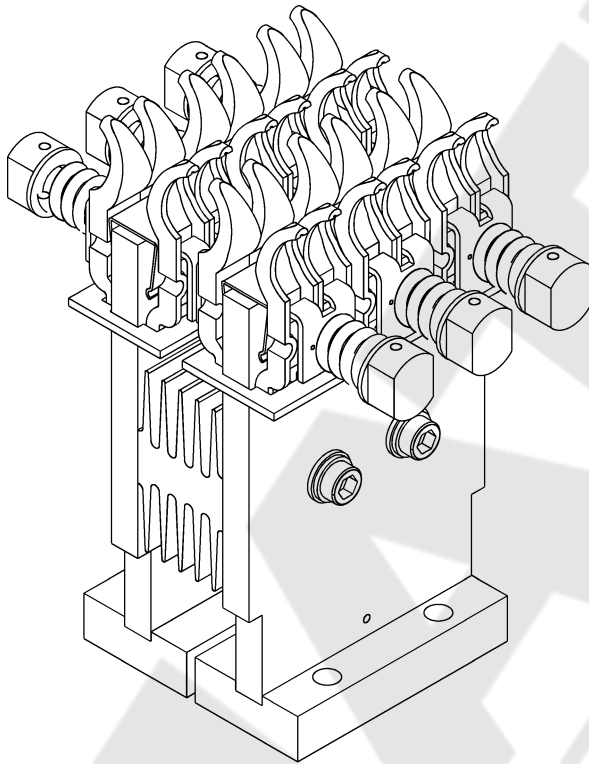

Figure 8. Connector assembly for the upper primary disconnect.
Primary Disconnect assemblies are available in two configurations for the upper and lower disconnects, as illustrated in Figures 8 and 9. Each pole on the lower disconnect requires two assemblies. Each pole on the upper disconnect requires two assemblies and one inner heat sink, with two additional outer heat sinks on the center (B) pole. Catalog numbers are listed in Table 5.